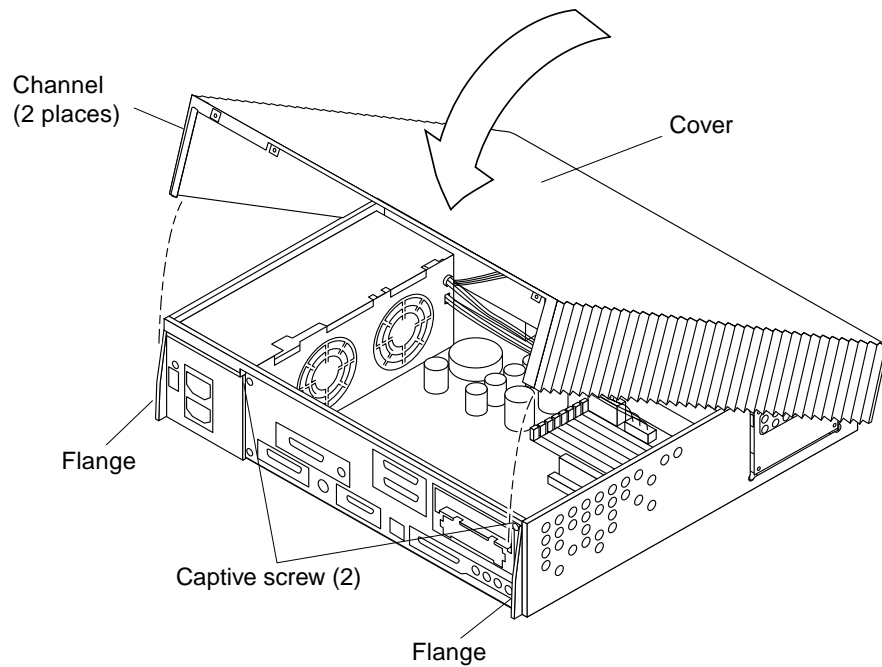

FIGURE 7-4 Replacing the Cover
1. Position the cover on the system (FIGURE 7-4).
2. Lower the rear of the cover until the cover channels align with the chassis flanges. Press down on each side of the cover until the cover firmly seats (FIGURE 7-4).